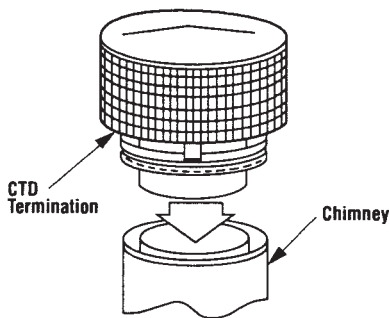

Figure 32
1. Hold CTD over top of the last chimney section (Figure 32).